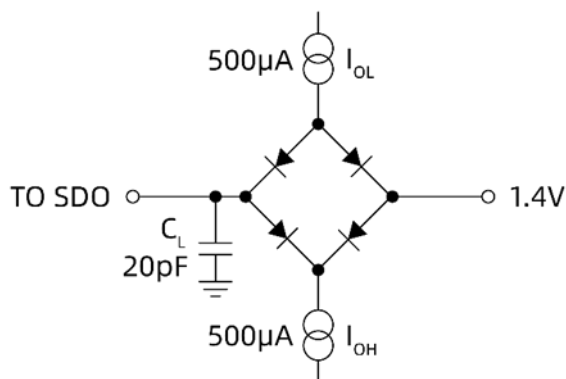

Figure 1. Digital Interface Timing
1. The loading conditions are shown in Figure 1 and Figure 2.